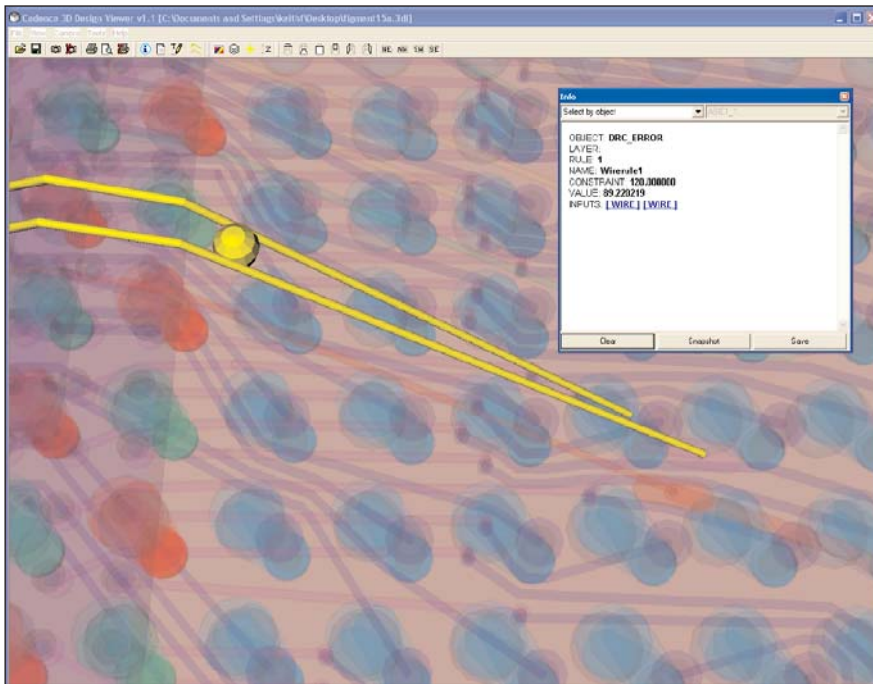

Figure 5: Highlighting the DRC using the “info” command
*Figure 5* shows how the 3D Viewer enhances the designers debug capability—the “info” command highlights the DRC marker and the